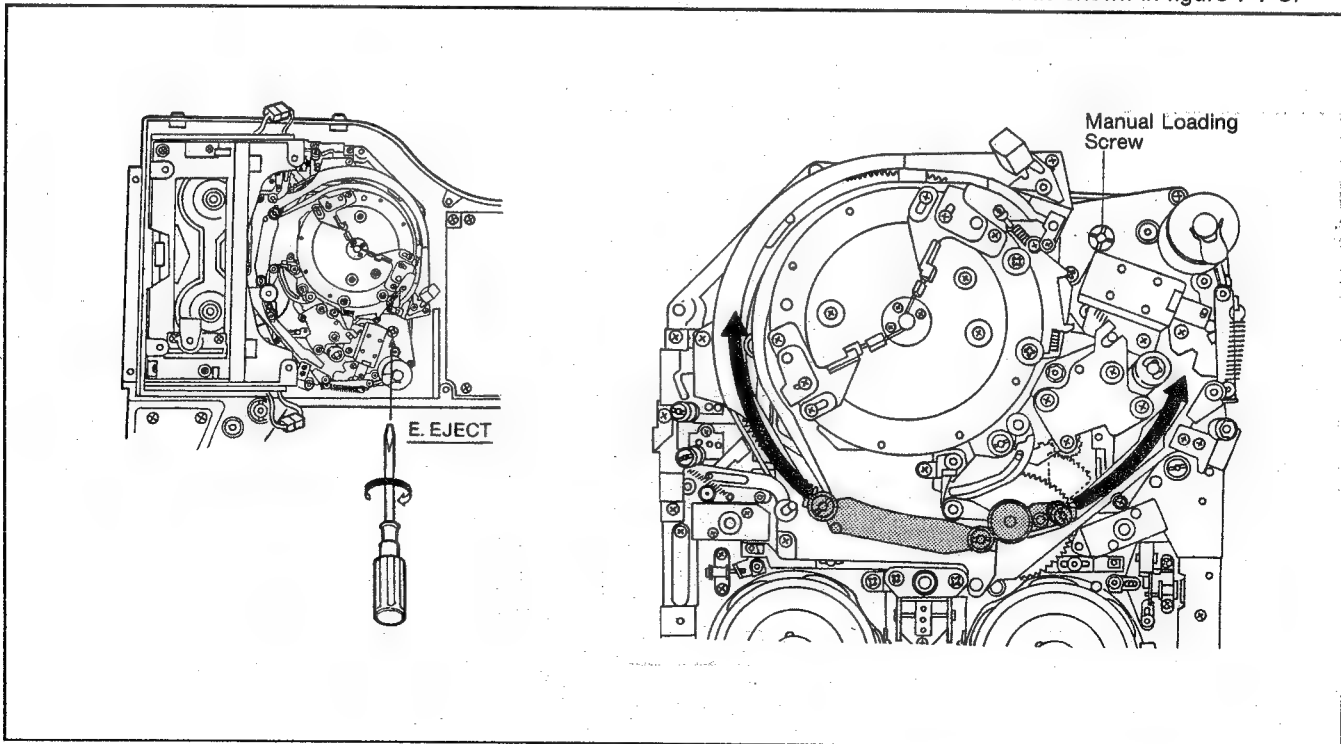

Fig. 7-7-3
(2) Turn the Manual Loading Screw clockwise so that Pinch Roller moves to arrow direction as shown in figure 7-7-3.
- 9) Turn the manual loading screw counterclockwise so that the mechanism is return to fully unloaded position. (Refer to figure 7-7-3)